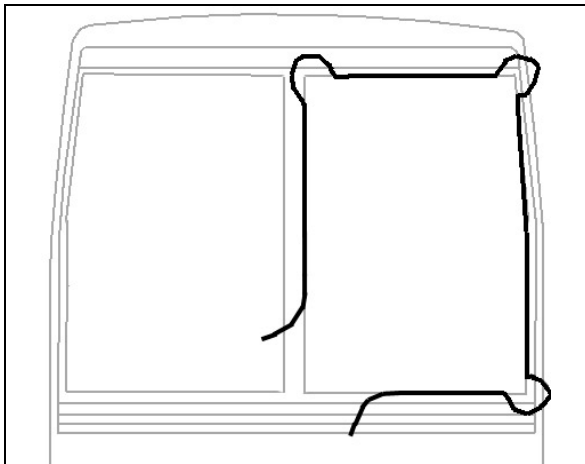

FIGURE 55: WINDSHIELD INSTALLATION USING ROPE
- Insert rope into rubber extrusion leaving enough length at each corner to make a loop. Spray soapy water onto rope and rubber extrusion (Fig. 55).